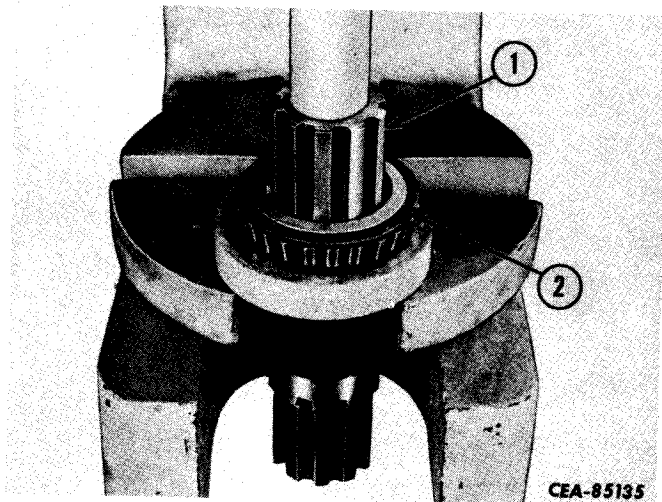

Figure 5-25
Press shaft (1, Fig. 5-25) out of bearing cone (2) as shown.